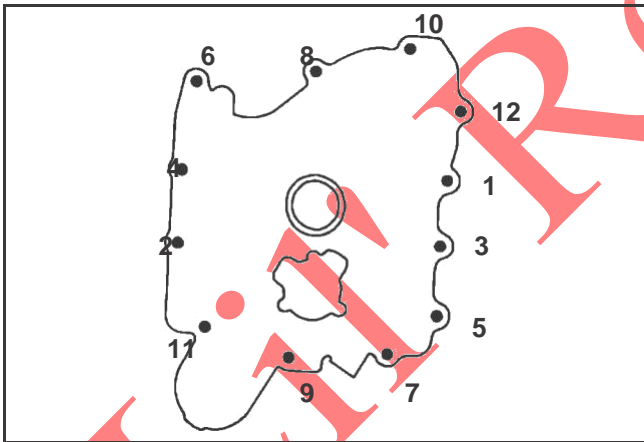

Figure 11-20. Closure Plate Fastener Torque Sequence.
4. Torque the fasteners, in the sequence shown in Figure 11-20 to **24.4 N·m (216 in. lb.)**.